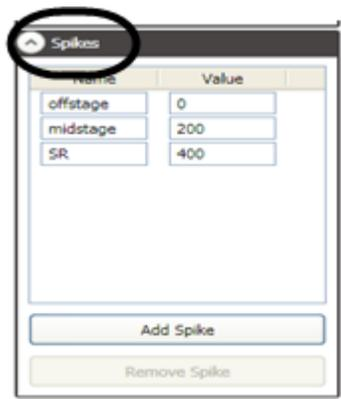

Figure 311
- Go to the **Spikes** section of the **Stagehand Editing Pane** (Figure 311).